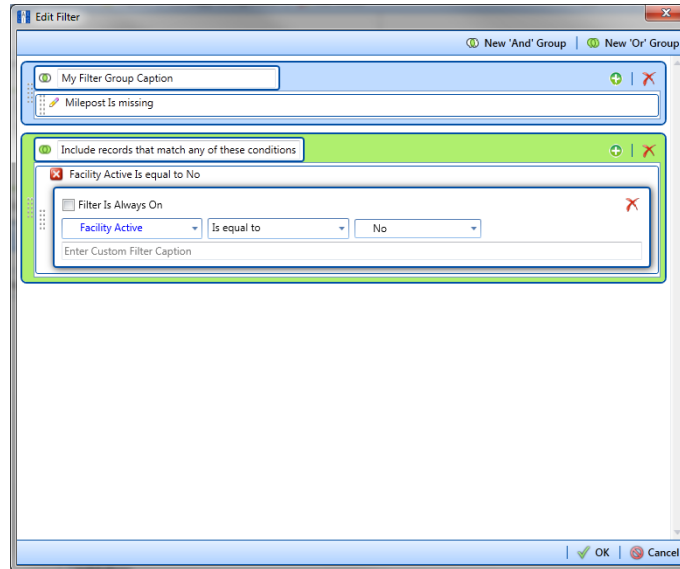

Figure 10-38. New 'Or' Filter Group
- a Click **New 'Or' Group** to open a filter properties group box (Figure 10-38).